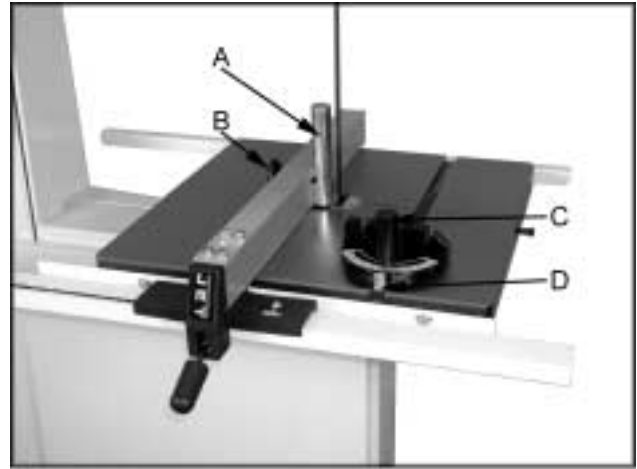

Fig. 13
For resawing attach the post (A, Fig. 13) to fence with the lock knob (B, Fig. 13). There is a slotted hole in the fence that will accommodate the resaw kit. Position the post so that it is centered with the front edge of the blade.
3. If the miter gauge is not square to the blade loosen the lock knob (C, Fig. 13) and adjust to the proper setting. Tighten the lock knob.
4. If the pointer is not at 90 degrees, loosen the screw (D, Fig. 13) holding the pointer and move the pointer to 90 degrees.